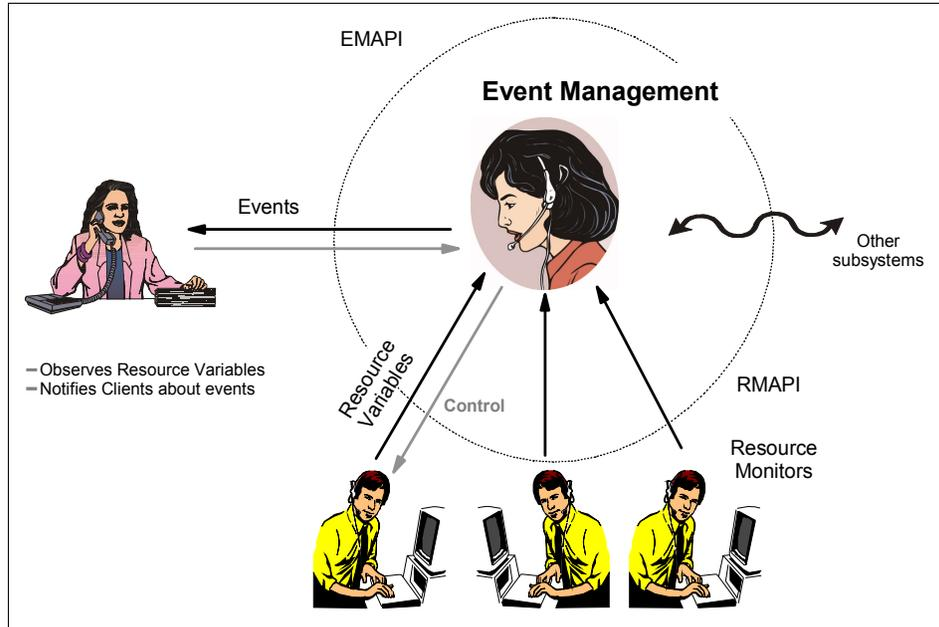

Figure 12-1 EM design
Event Management (EM) provides for comprehensive monitoring of hardware and software resources in the system. A resource is simply an entity in the system that provides a set of services. CPUs execute instructions, disks store data, and database subsystems enable applications. You define what system events are of interest to your application, register them with EM, and let EM efficiently monitor the system. Should the event occur, EM will notify your application. Figure 12-1 on page 400 illustrates EM's functional design.